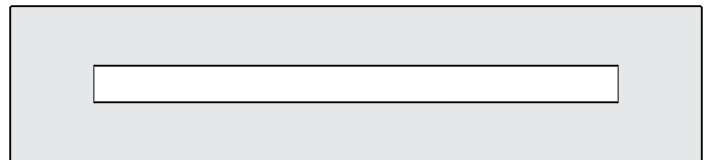

Figure 63
1. Apply the crushed glass to the shaded area only. **See Figure 63.** Use enough to cover the area of the fireplace, but do not allow the media to reach higher than the flange surrounding the burner. Never place decorative media inside the flange surrounding the burner itself.